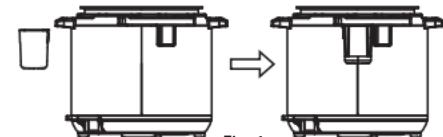

Fig. 1 Sealed
2. Place the condensate container (6) in the appliance as shown in Fig. 1.